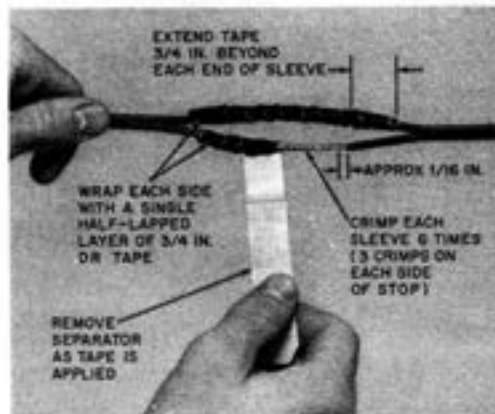
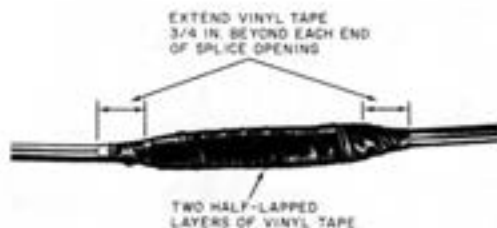

Fig. 6—Applying DR Tape After Crimping Sleeves
Fig. 7—Completed Splice (Drop to Drop)
| NOT BACK OF OBSTRUCTION (FIG. 7) | P |
| BACK OF OBSTRUCTION (FIG. 6) NOT BACK OF OBSTRUCTION (FIG. 7) | O P |
- (7) Crimp each sleeve six times (approximately 1/16 inch intervals) and apply DR tape as shown in Fig. 6.
- (8) Wrap entire splice with vinyl tape starting at the center of the splice, wrapping to one end (Fig. 7). Reverse direction, wrap to the other end; reverse direction again and end wrapping at the center.♦